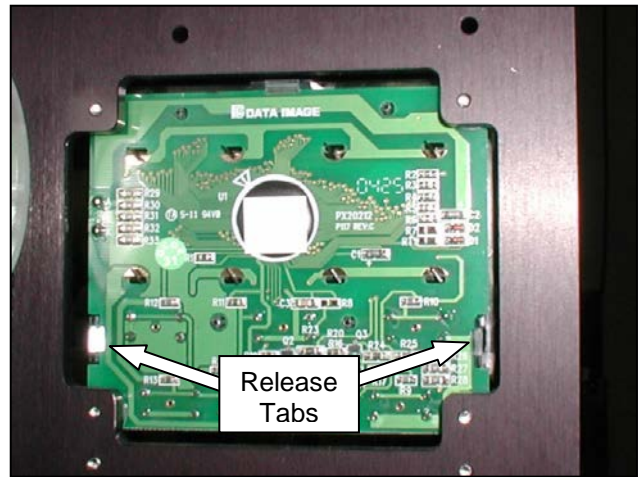

Figure 3-136. Release tabs
4. Release the two lower Face Plate tabs (Figure 3-136).